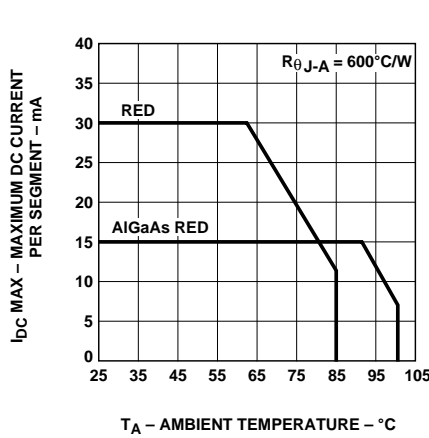

Figure 3. Maximum Allowable DC Current vs. Ambient Temperature.  $T_{JMAX} = 100^{\circ}C$  for Red and  $T_{JMAX} = 110^{\circ}C$  for AlGaAs Red.
- Derate maximum DC current for Red above  $T_A = 62^\circ\text{C}$  at  $0.79 \text{ mA}/^\circ\text{C}$ , and AlGaAs Red above  $T_A = 91^\circ\text{C}$  at  $0.8 \text{ mA}/^\circ\text{C}$ . See Figure 3.